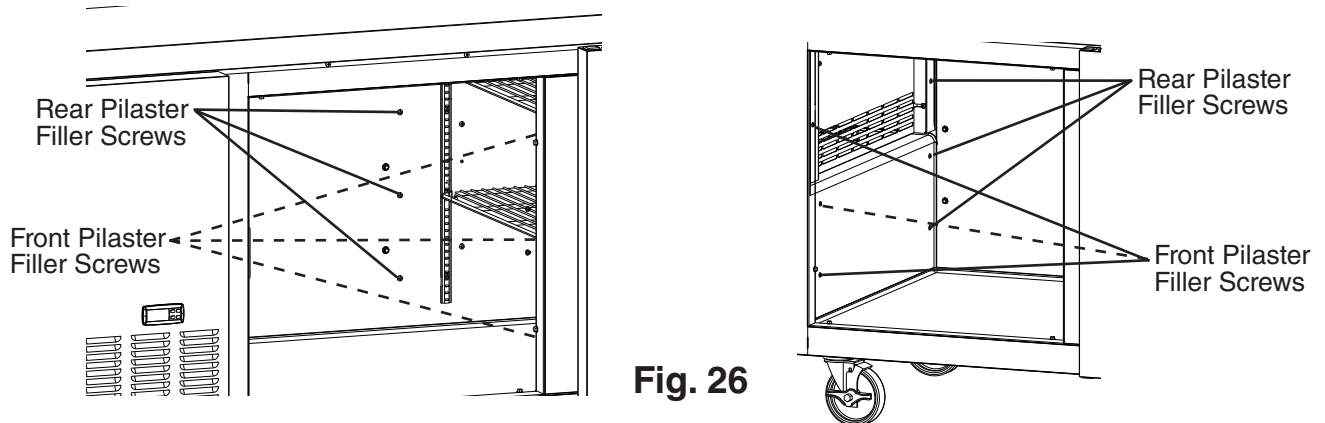

Fig. 26
- 6) Remove the 12 pilaster filler screws from the current drawer section. See Fig. 26.